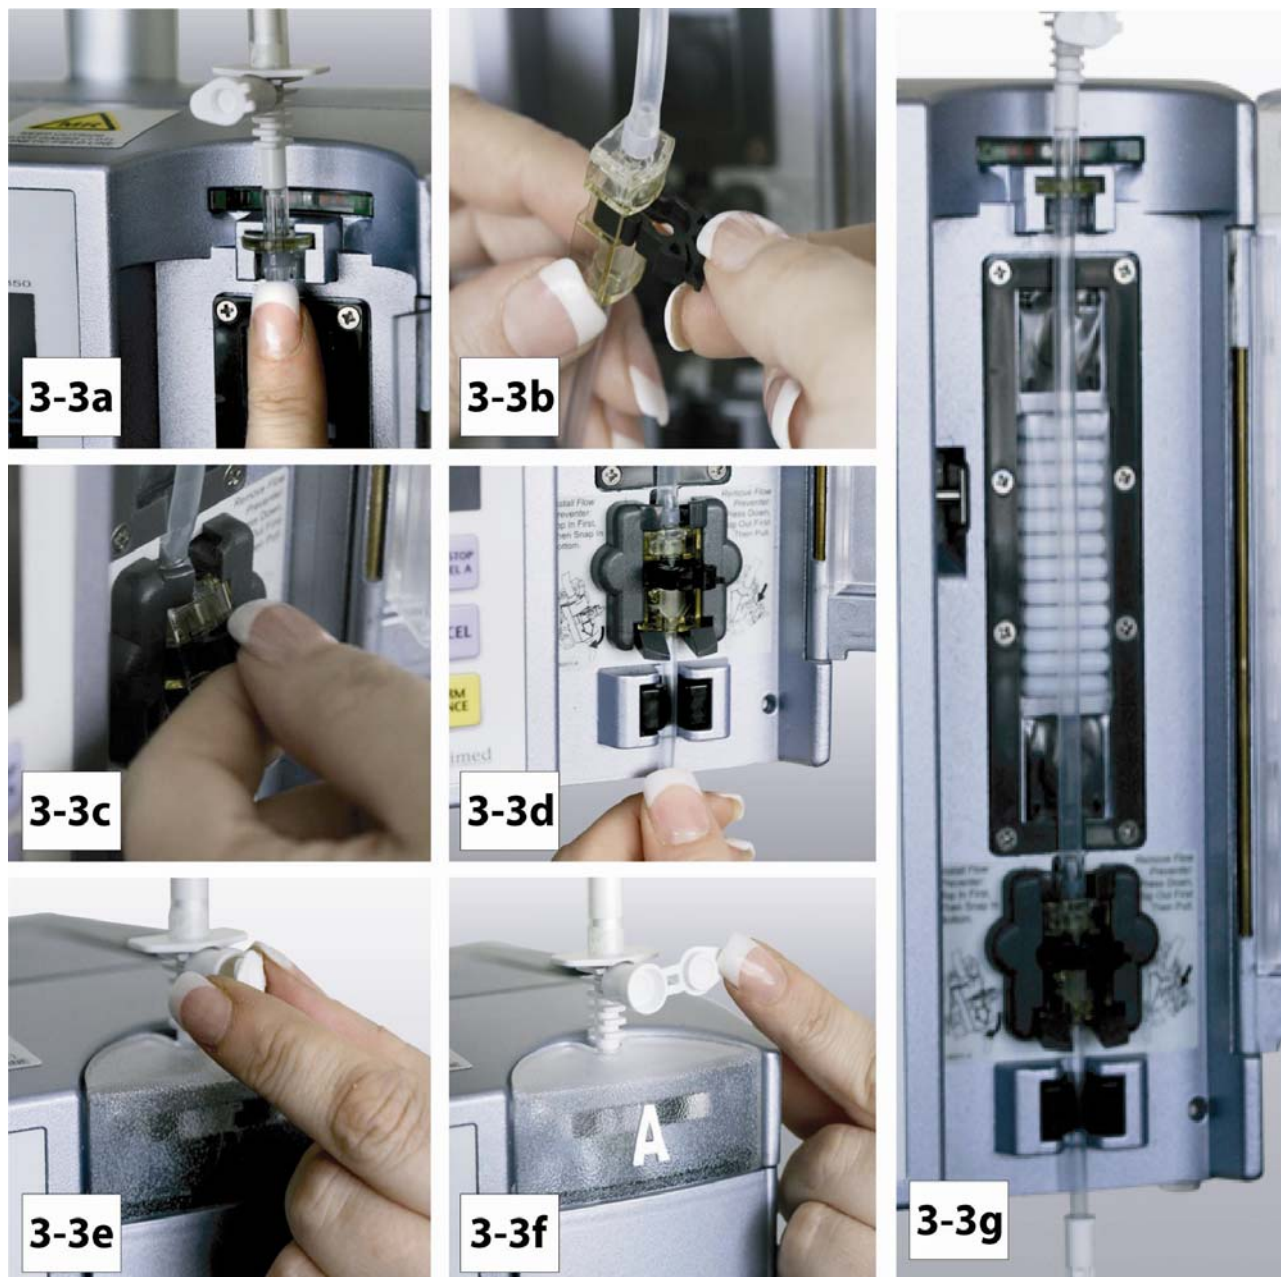

Figure 3-3. IV Set Installation
WARNING: DO NOT STRETCH the silicone rubber segment of the I.V. Set. When properly loaded, the silicone rubber segment should be taut (without slack) and centered atop the pump's peristaltic "fingers", as shown in Figure 3-3, page 3-5. Overstretching, or mis-positioning of this tubing can result in inaccurate flow, and/or free-flow.
3.3.1 Administration Set Insertion. Perform the following to insert the Administration set into the pump: (See Figure 3-3)
- a. Press the ON Control Key (I).